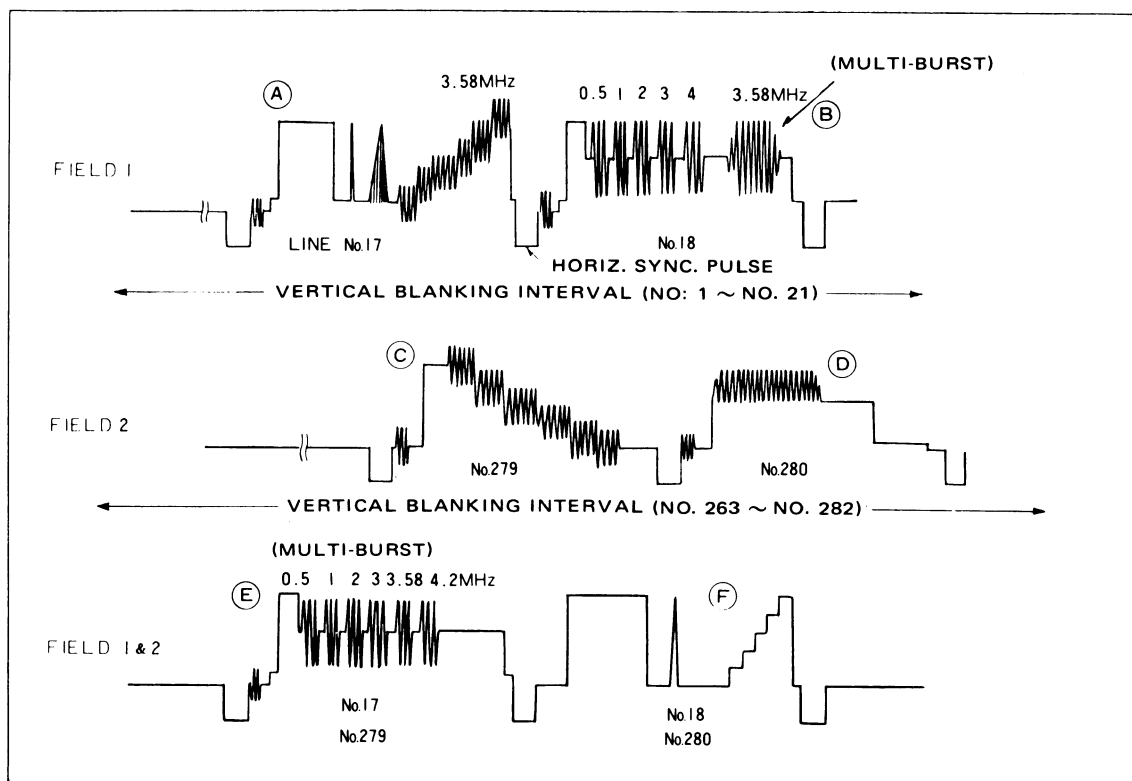
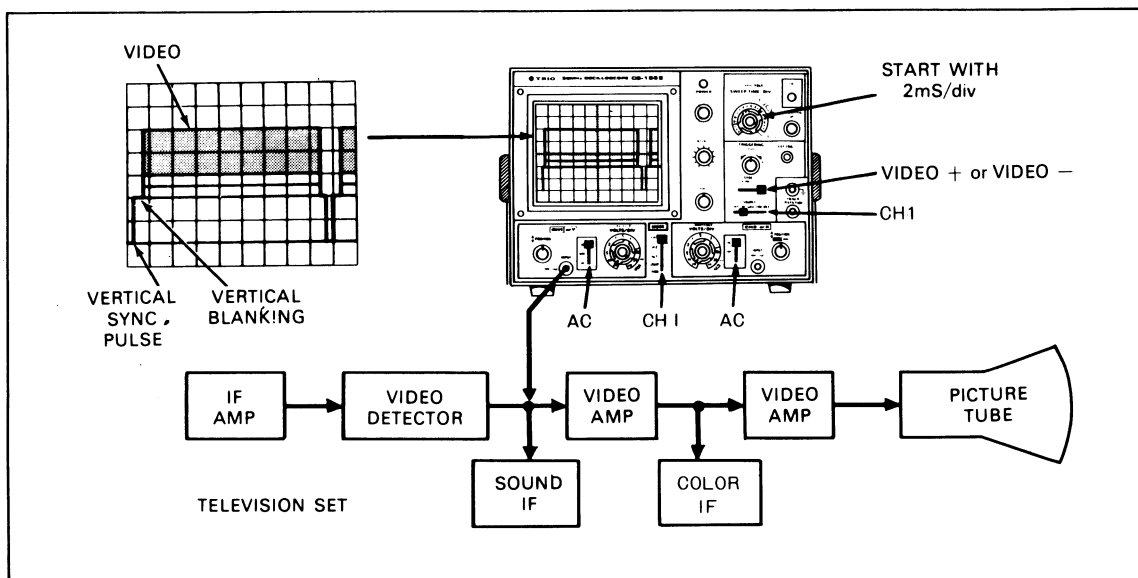

Fig. 16 VITS signal, Fields 1 and 2
Fig. 18 Set-up for viewing fields 1 and 2 of VITS information
Many of the television servicing procedures can be performed using single-trace operation. These are outlined later in the applications section covering single-trace operations. One of these procedures, viewing the VITS (vertical interval test signal), can be accomplished much more effectively using a dual-trace oscilloscope. As outlined in the single-trace applications section and as shown in Fig. 16, the information on the Field 1 and Field 2 vertical blanking interval pulse is different. This is shown in detail in Fig. 16. Also, because the oscilloscope sweep is synchronized to the vertical blanking interval waveform, the Field 1 and Field 2 waveforms are superimposed onto each other. With dual-trace operation, the signal information on each blanking pulse can be viewed separately without overlapping. Fig. 18 indicates the oscil-
The transmitted VITS is precision sequence of a specific frequencies, amplitudes and waveshapes as shown in **Fig. 16**.
The first frame of VITS at the "B" section (line 18) in **Fig. 16** begins with a white reference signal, followed by sine wave frequencies of 0.5 MHz, 1.0 MHz, 2 MHz, 3 MHz, 4 MHz and 3.58 MHz. This sequence of frequencies is called the "multi-burst".
With dual-trace oscilloscope operation, the signal information on each vertical blanking interval can be viewed separately without trace overlapping, although the information alternates with each field. **Fig. 18** indicates the oscilloscope control setting for viewing the alternate vertical blanking intervals.
2. The method shown in **Fig. 18** is used to obtain Field 2 vertical sign on CH1.
information will appear toward the right hand portion of the expanded waveform displays. The waveform information on each trace may appear as shown in Fig. 16. Because there is no provision for synchronizing the oscilloscope display to either of the two fields which comprise a complete vertical frame, it cannot be predicted which field display will appear on CH1 or CH2.
10. Pull the ◀▶ POSITION control outward to obtain an additional X10 magnification. Rotate the control in a counterclockwise direction moving the trace to the left until the expanded VITS information appears as shown in Fig. 16. Because of the low repetition rate and the high sweep speed combination, the brightness level of the signal displays will be reduced.